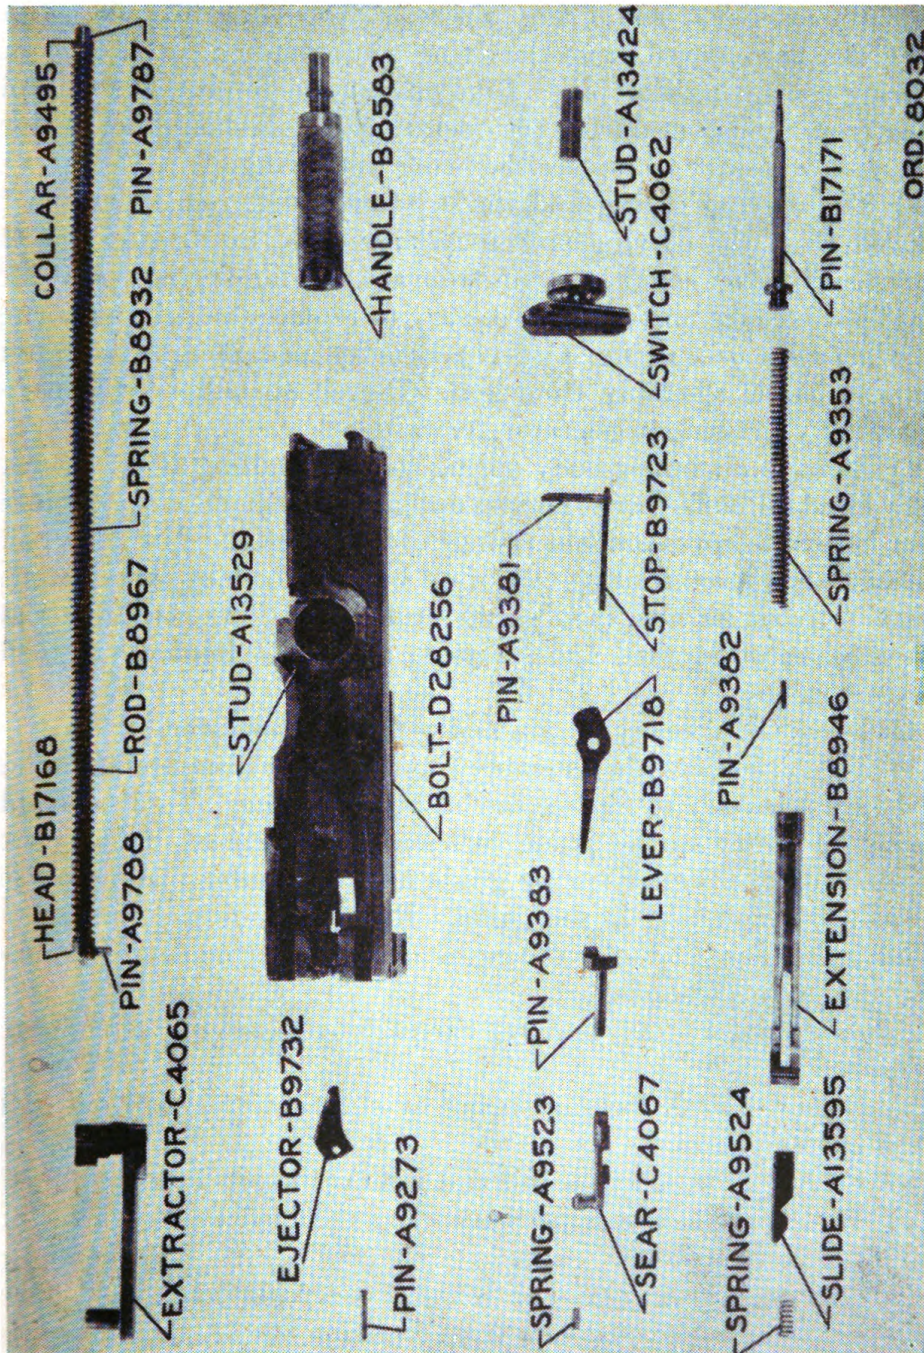

FIGURE 3.—Bolt group.
11. Detailed disassembling.—*a. Bolt group* (fig. 3).—(1) Remove bolt group from gun.